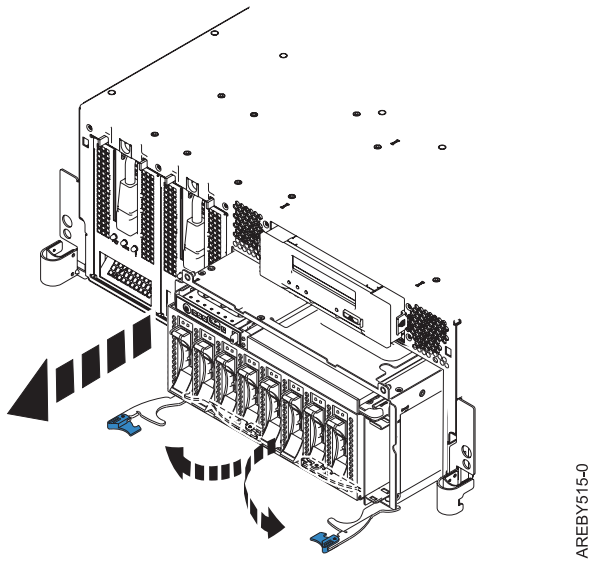
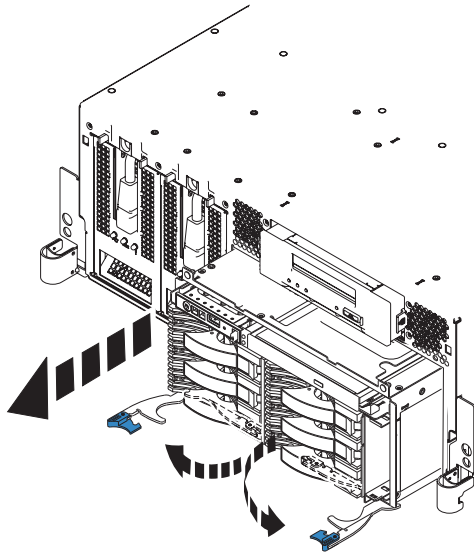
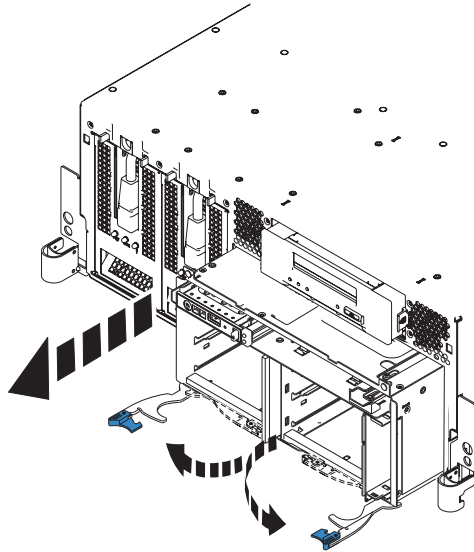

Figure 19. Removing the populated 2.5 inch small-form disk drive backplane
Figure 20. Removing the populated 3.5 inch disk drive backplane
Figure 21. Removing the unpopulated disk drive backplane
13. Pull the backplane out of the server as shown in Figure 19, Figure 20, or Figure 21 on page 23.